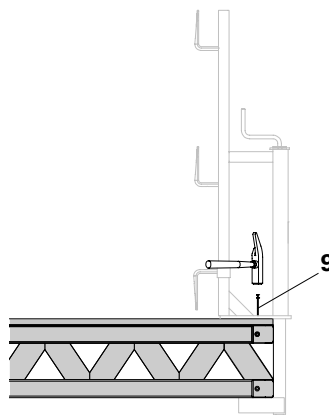

Fig. A4.04
- The clamp jaw (1.7) must lie completely flat. (Fig. A4.04)
5. Secure Guardrail Holder-2 against moving through the use of a double headed nail or one TSS-TORX screw. (Table A4.02/Fig. A4.04/A4.04a)